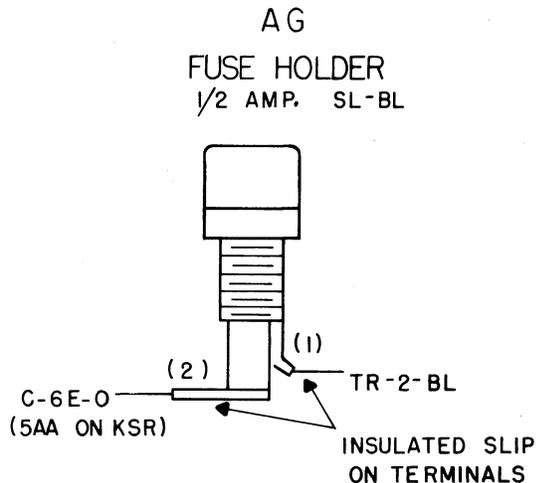

Figure 3 - Fuse Holder (AG)
- (d) Connect fuse (Figure 3). Use two insulated slip on terminals on transformer cable assembly TP336498 for the fuse.
- (e) Place insulator TP336496 under the four (4) mounting plate flat washers and tighten screws.
- (f) Mount assembled plate with transformer at center of relay rack with two (2) screws TP165103 and speed nuts TP153017.